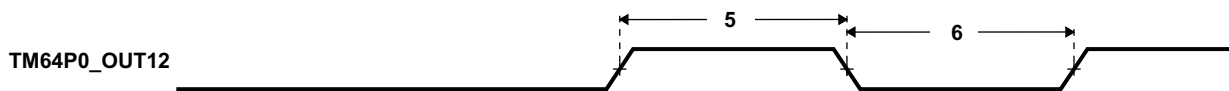

**Figure 5-83. Timer Timing**
**Table 5-133. Timing Requirements for Timer Input(1)(2)(3) (see Figure 5-83)**